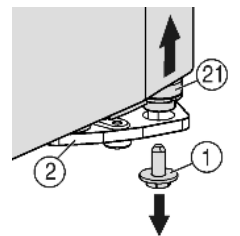
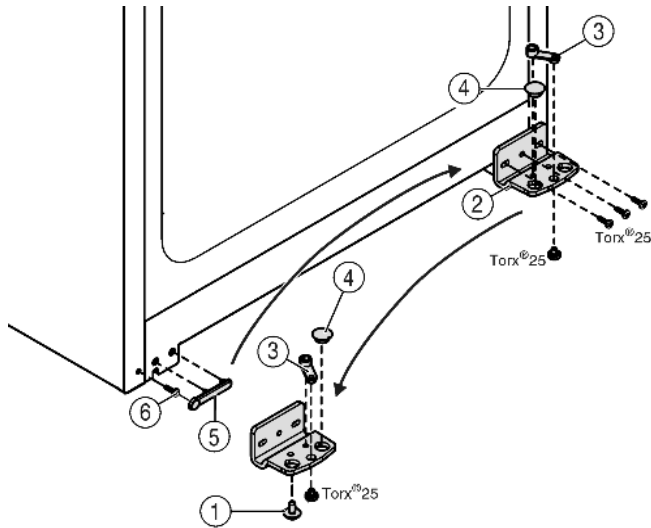

Fig. 5
Fig. 6
- ▶ Unscrew the securing screw on the bottom right Fig. 5 (1) turn hinge.
- ▶ The bearing pin Fig. 5 (21) should come out of the turn hinge Fig. 6 (2).
- ▶ If the bearing bolt Fig. 5 (21) doesn't undo press it out from underneath.
- ▶ Unscrew the turn hinge Fig. 6 (2).
- ▶ Unscrew the bearing element, Fig. 6 (3) transfer it to the opposite location hole of the turn hinge and screw it firmly into place.
- ▶ Take the stopper Fig. 6 (4) out of the turn hinge and transfer it to the receiving hole on the opposite side of the turn hinge.
- ▶ Carefully lift off the cover Fig. 6 (5) on the handle side.
- ▶ Undo the screw Fig. 6 (6) and transfer it to the opposite side.
- ▶ Put the cover Fig. 6 (5) back on.
- ▶ Screw the turn hinge Fig. 6 (2) firmly into place on the new hinge side (**with 4 Nm**), possibly using a power screwdriver.
- ▶ Insert the securing screw Fig. 5 (1) at the bottom into the bearing pin and tighten it (**with 4 Nm**).